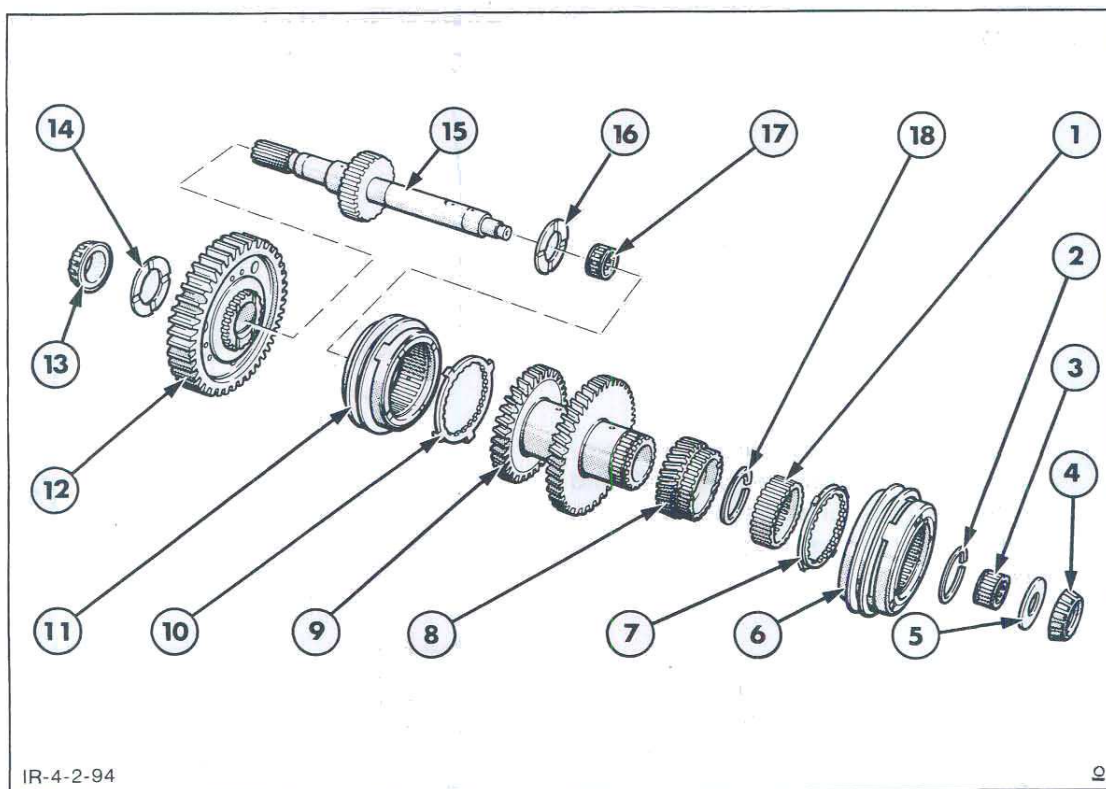

Figure 95
1. Thoroughly clean the output shaft components, Figure 95, with a suitable solvent, then blow dry with compressed air. Do not spin the bearings with compressed air.
With reference to Figure 95.